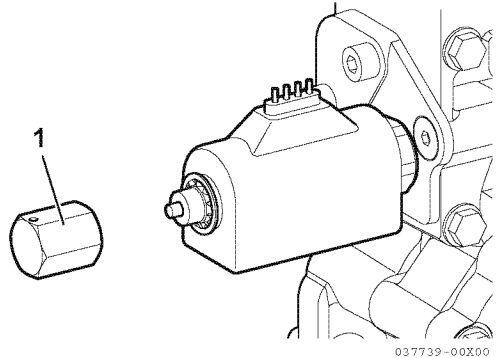

Figure 13
- Thread the emergency nut (1, **Figure 13**) onto electric valve.